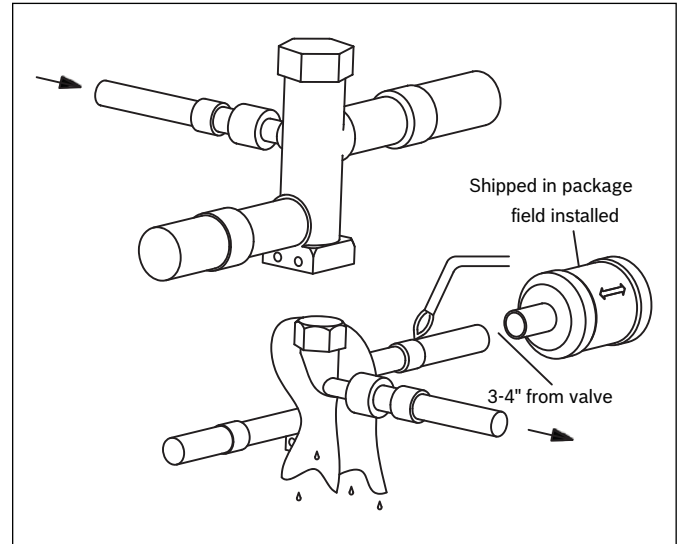

Figure 17
4. Wrap a wet rag around the valve body to avoid heat damage and continue the dry nitrogen purge (Fig. 17).